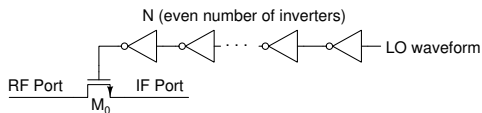

Figure 24: Buffer connecting LO to switching transistor
- ▶ LO input is fed to the gate of the switching nMOSFET through buffers built with inverters (figure 24)